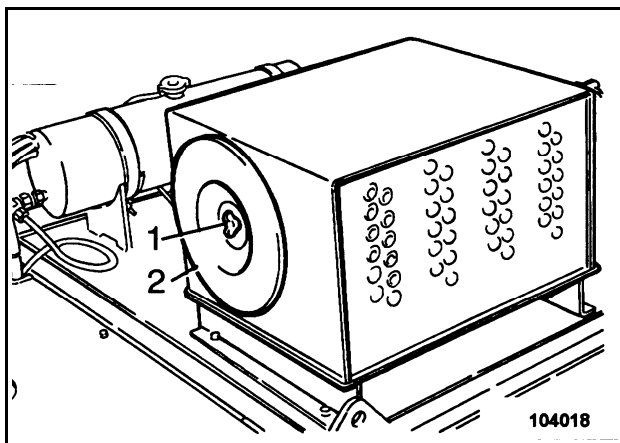

Fig. 3-28:
- Screw on draining hose (2); the valve opens and the oil drains away.
- Before installing the filter element, clean contact faces at cover (2, Fig. 3-28:) and at filter housing.
- Put on cover (2) and tighten nut (1).